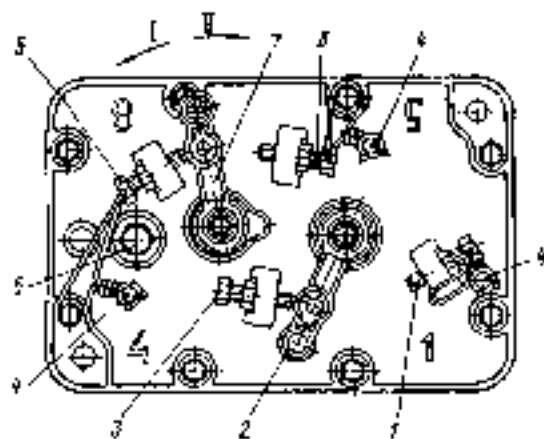

Fig. 42. Governor Top Cover.
On the governor cover are cast numerals 1, 4, 5 and 8 (Fig. 42) marking the location of the corresponding sections. Numbers of injectors and connection of pumping sections with engine injectors are shown in Fig. 48.
The governor top cover (see Fig. 42) mounts: governor control lever 2, stop lever 7, adjusting bolts and filter plug 5.
5. Check and readjust, if need be, the fuel feed shut off through injectors when governor control lever 2 (see Fig. 42) rests against bolt 3. Check that the fuel feed is shut off at about 330-400 min⁻¹. When readjusting, use bolt 3.